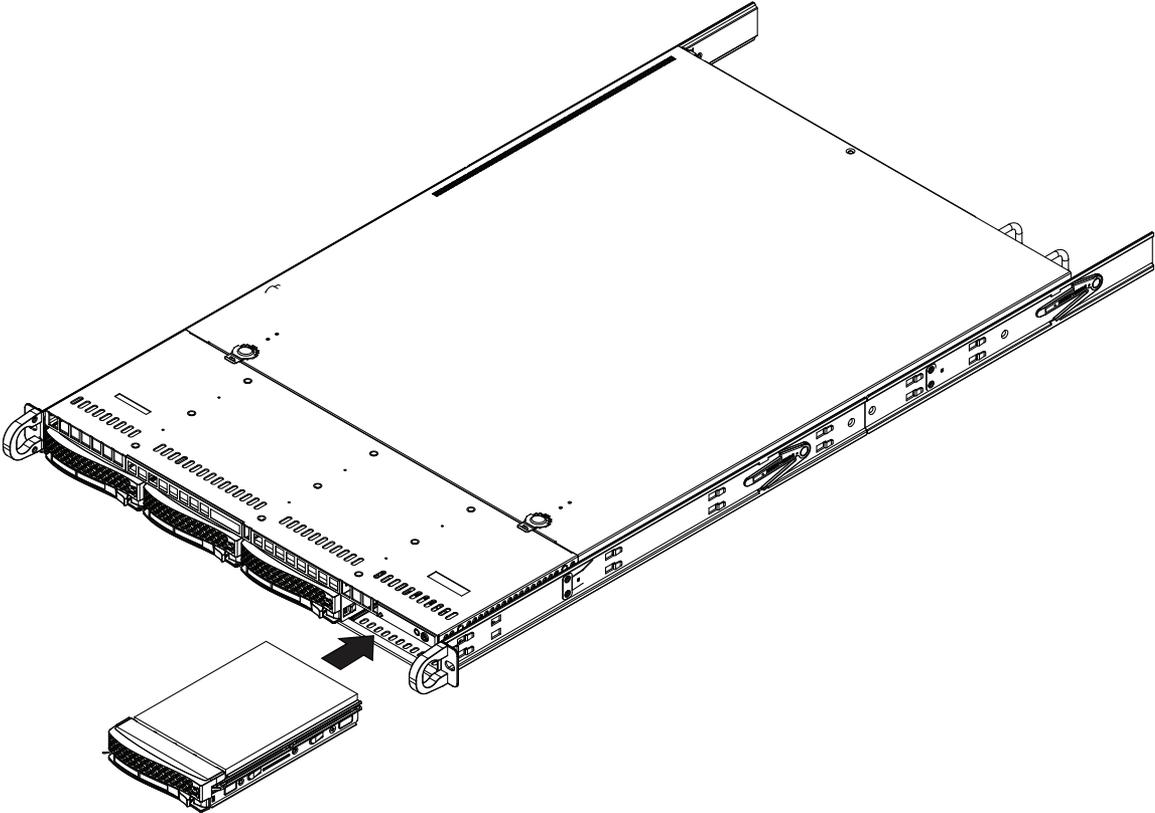

Figure 6-4 Hard Disk Drive Installation Example
6. Using your thumb, push against the upper part of the hard drive handle until the assembly clicks into the locked (fully seated) position, see Figure 6-4 on page 49 for an example.